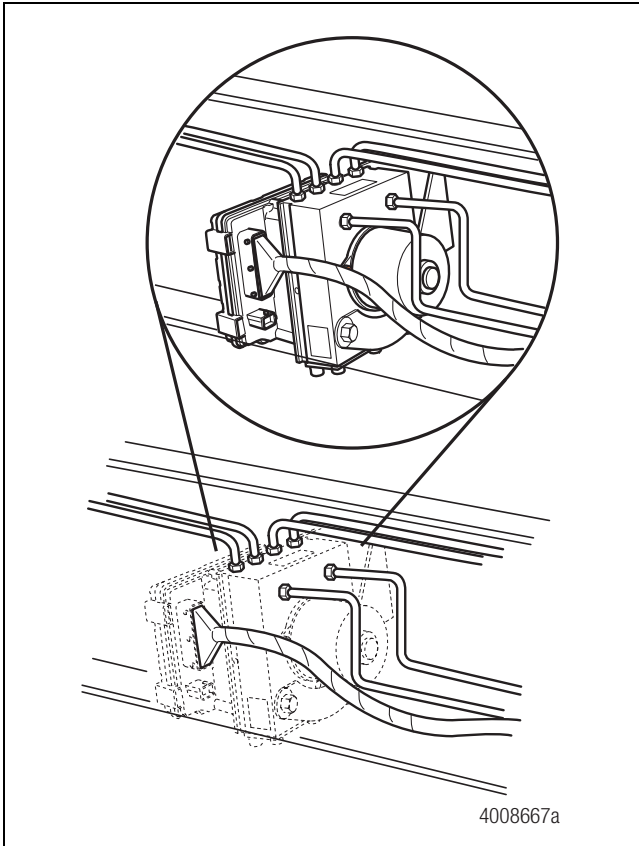

Figure 3.3
1. Position the modulator assembly in place on the vehicle. Figure 3.3.